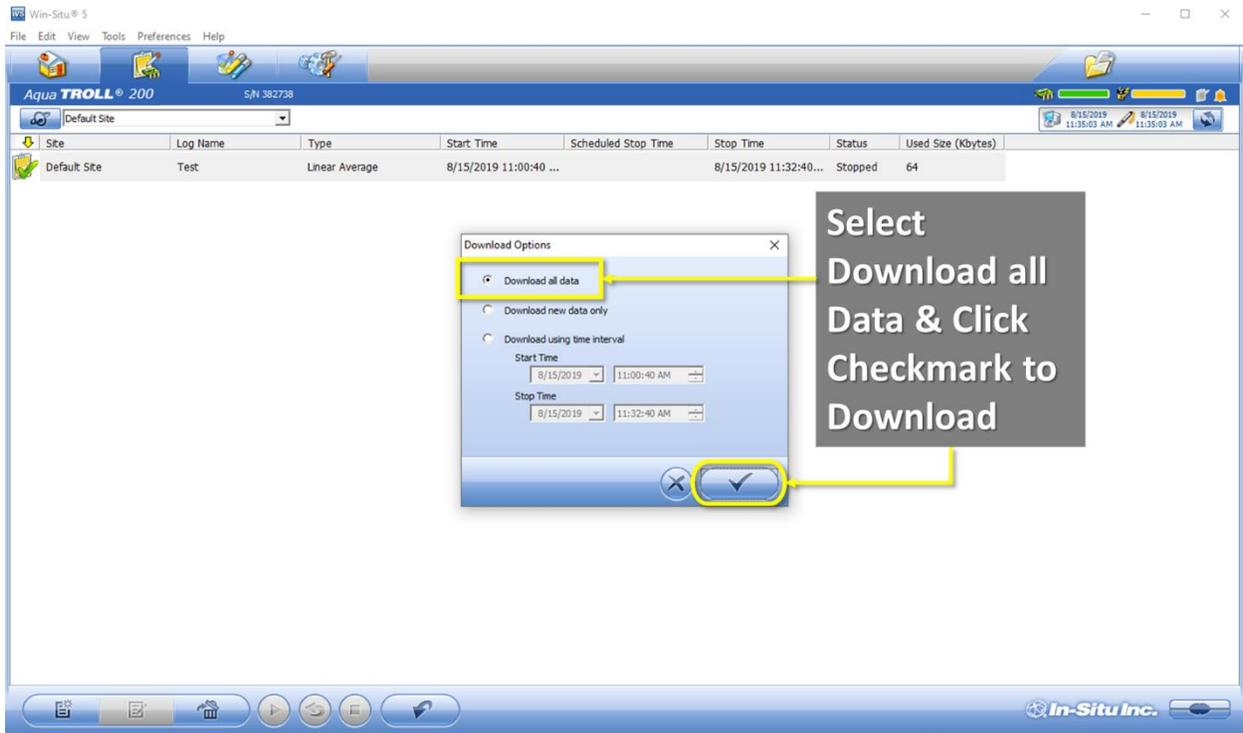

Figure 26. Select "Download all data" and Click on the Checkmark to Initiate Download
2. When the Download Options window appears, select “**Download all data**” and click on the checkmark to initiate the download (**Figure 26**).